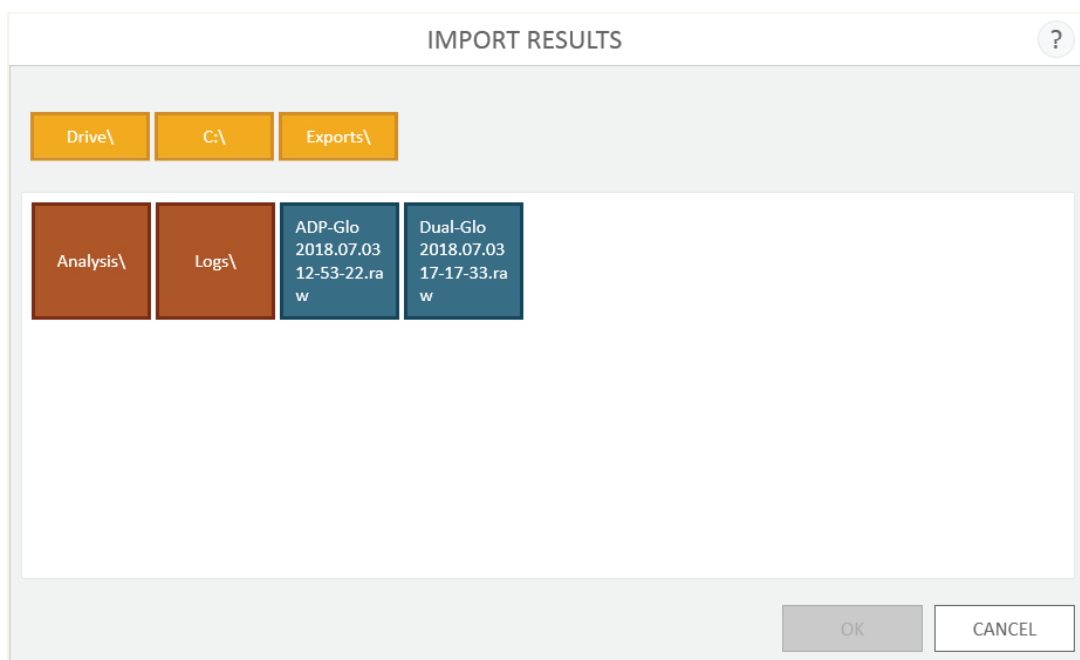

Figure 53. Importing Results, Templates or Analyses. Use the file browser screen to browse to the location of the desired import file.
- Touch the **Import** button near the bottom left side of the screen to open the 'Import Results', 'Import Templates' or 'Import Analyses' screen, depending on the current list being viewed (Figure 53).